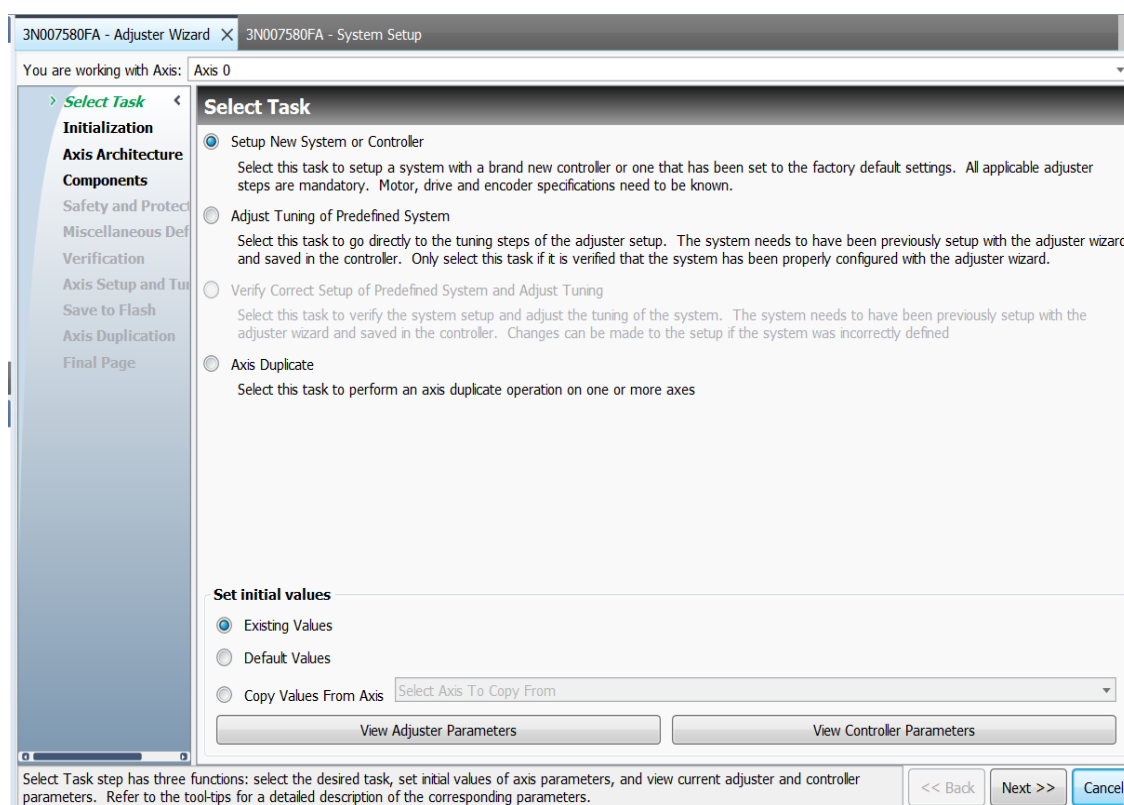

Figure 6-2. Adjuster Wizard: Select Task
2. From the first page of the **Adjuster Wizard**, you can proceed through the steps of setting up and exercising the motors. You select options on each page, then click on the **Next** button at the bottom of the page (see Figure 6-2).